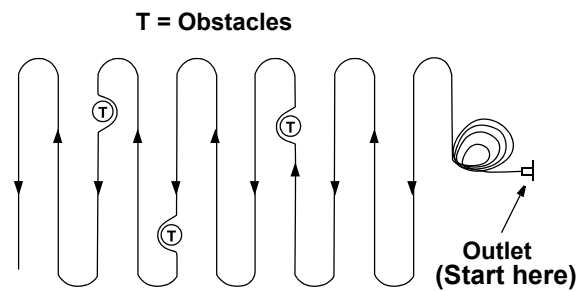

Figure 11
- Always start from the **point closest to the power source** where the cord is connected. Never mow around the lawn in circles; travel back and forth across the lawn, starting from the point closest to the outlet and then moving away from the outlet so the cord lies in the cut portion of the lawn, out of the way. Refer to Figure 11.